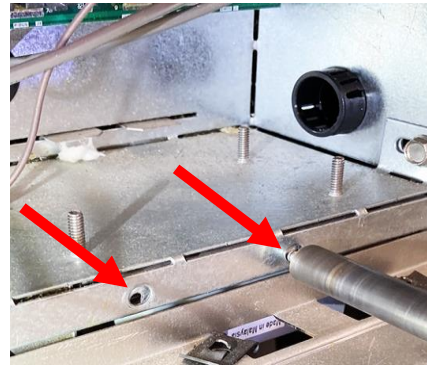

Figure 19
20. Remove the two screws attaching the ignition modules at the bottom of the control box (see Figure 19).